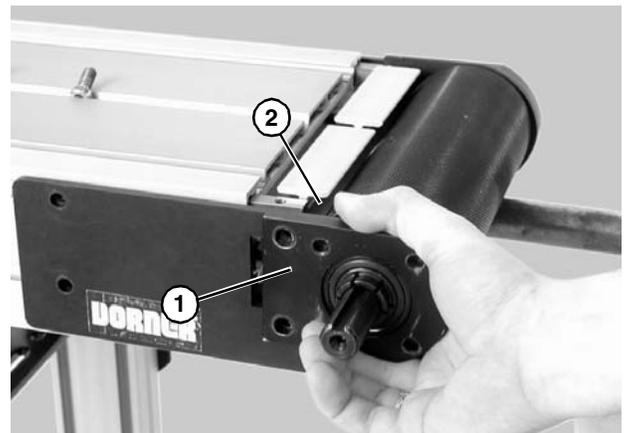

Figure 72
6. Remove the outer headplate assembly (Figure 72, item 1), and inner spacer (Figure 72, item 2).